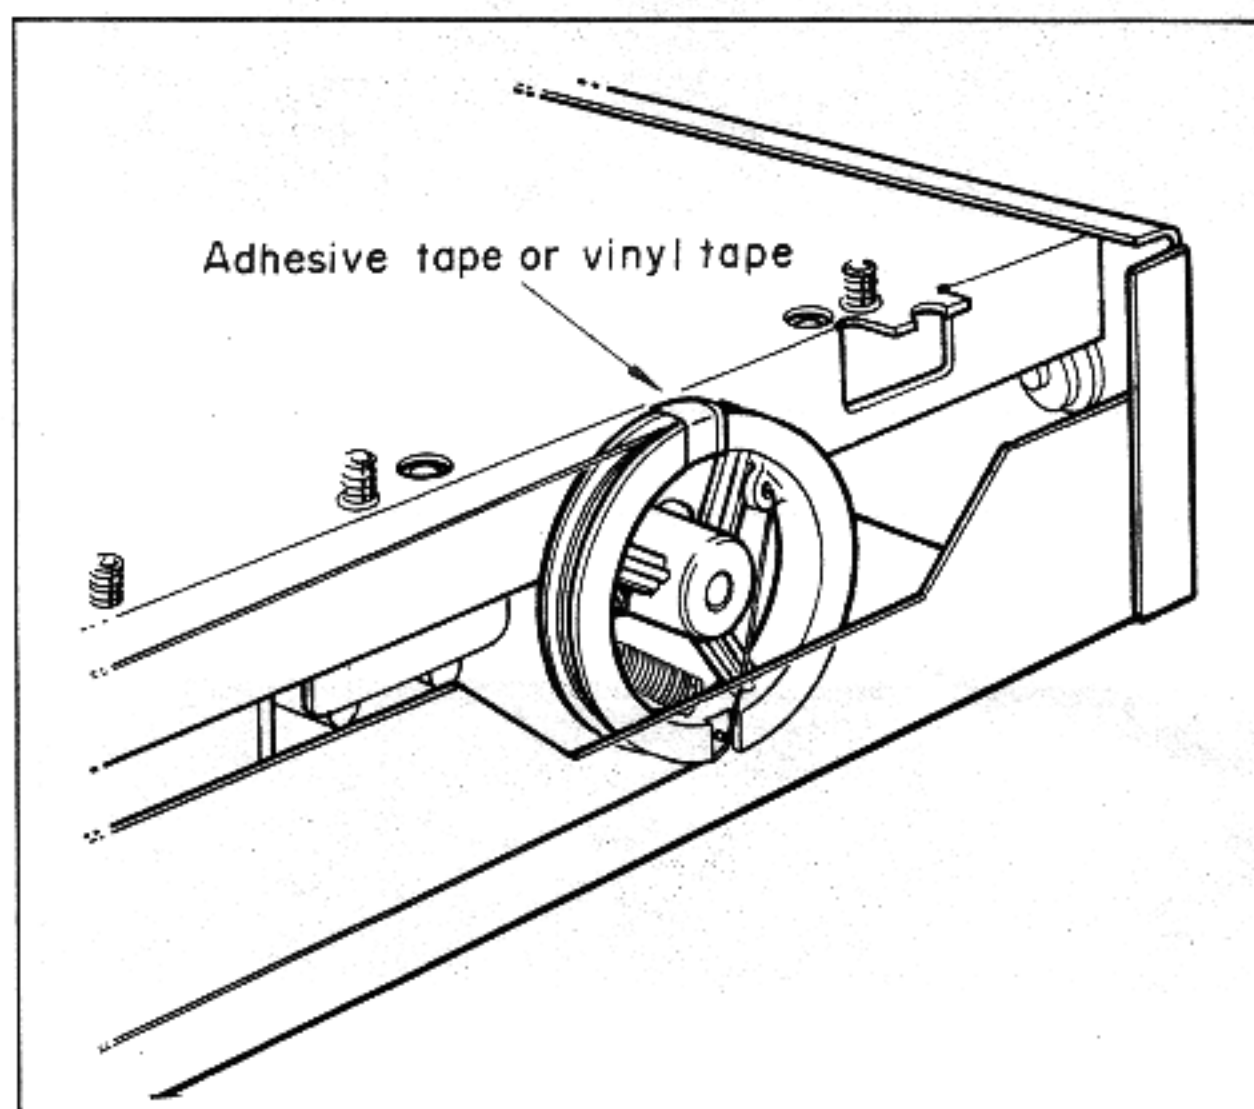

Fig. 1
**3. Tuner printed circuit board (1) removal**
- b. Pull out connectors #4 and #5 in Photo 2 which are connected to the tuner printed circuit board (1).
- c. Remove screws (1) and (2) in Photo 3 (M3 x 6 bind head screws), and then remove the power switch along with the fitting.
- d. Remove screws (11) to (16) in Photo 2 (M3 x 6 bind head screws), and then remove the tuner printed circuit board (1).
- c. Loosen screws (17) and (18) of the variable capacitor pulley in Photo 2 and then pull out the pulley from the variable capacitor shaft. You will find that if you wind adhesive tape or vinyl tape to secure the dial string to the pulley so that the string does not get tangled up (see Fig. 1), the replacement operation will be facilitated.
- d. Remove screws (A) to (C) in Photo 2, and then remove the RF front end pack.